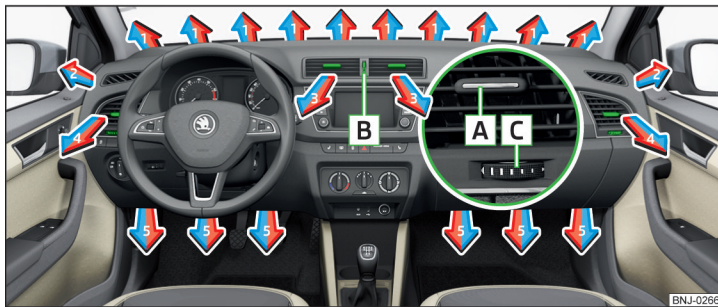

Fig. 126 Air outlet vents
The direction of airflow can be adjusted using the air outlet vents 3, 4 » Fig. 126, the outlets can be opened and closed individually.
The airflow direction is set by moving the adjustment element **A** » Fig. 126 in the desired direction.
- › Turn the regulator **B** upwards » Fig. 126.
- › Turn the regulator **B** downwards » Fig. 126.
Set the direction of the air outlet	Air outlet vents » Fig. 126